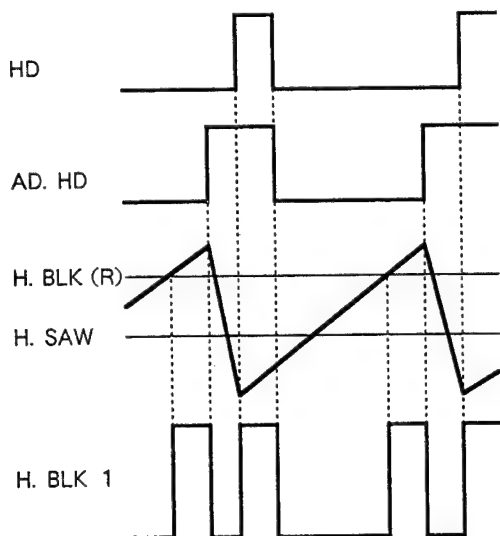

Fig. 6
- 2) H. BLK...Although similar to V. BLK in principle, since H. SAW is created with AD. HD, if the pulse created by slicing H. SAW with H. BLK (R) and if HD is added to create H. BLK, the phase of the two BLK Pulses will not align as shown in Fig. 6, H. BLK 1. For this reason, H. BLK will be created by padding HD.